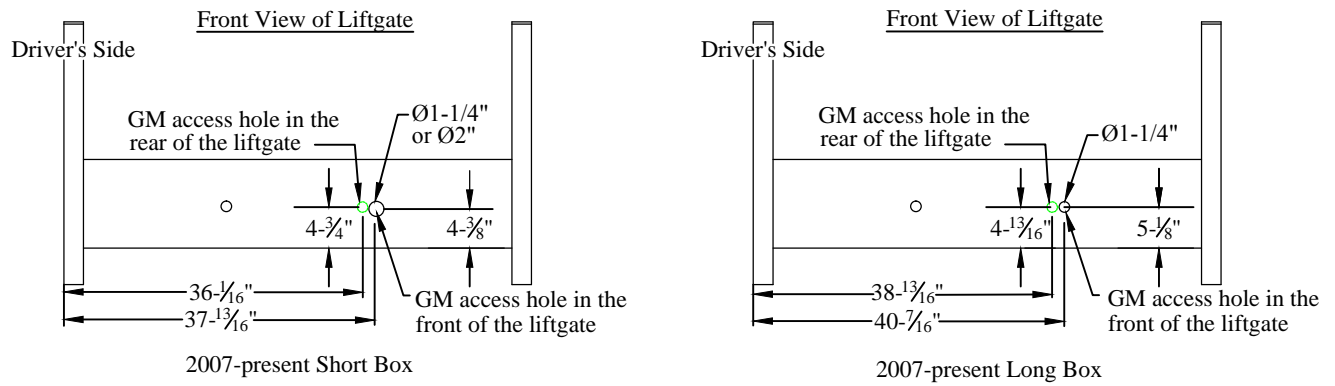

Figure 11: Spare tire access holes.
2. **Mark** two (2) 1/4" hole locations on the truck body using the tube holder as a guide.
3. **Check** for obstructions and **Drill** two (2) 1/4" holes in the positions marked in step 2.
4. **Fasten** the tube holder with the supplied two (2) 1/4"x3/4" bolts and locking nuts.
5. **Remove** and **Discard** the black plastic plug in the rear of the liftgate for spare tire tube access (Figure 11).
2. **Remove** the black plastic plugs for your application (Figure 11).